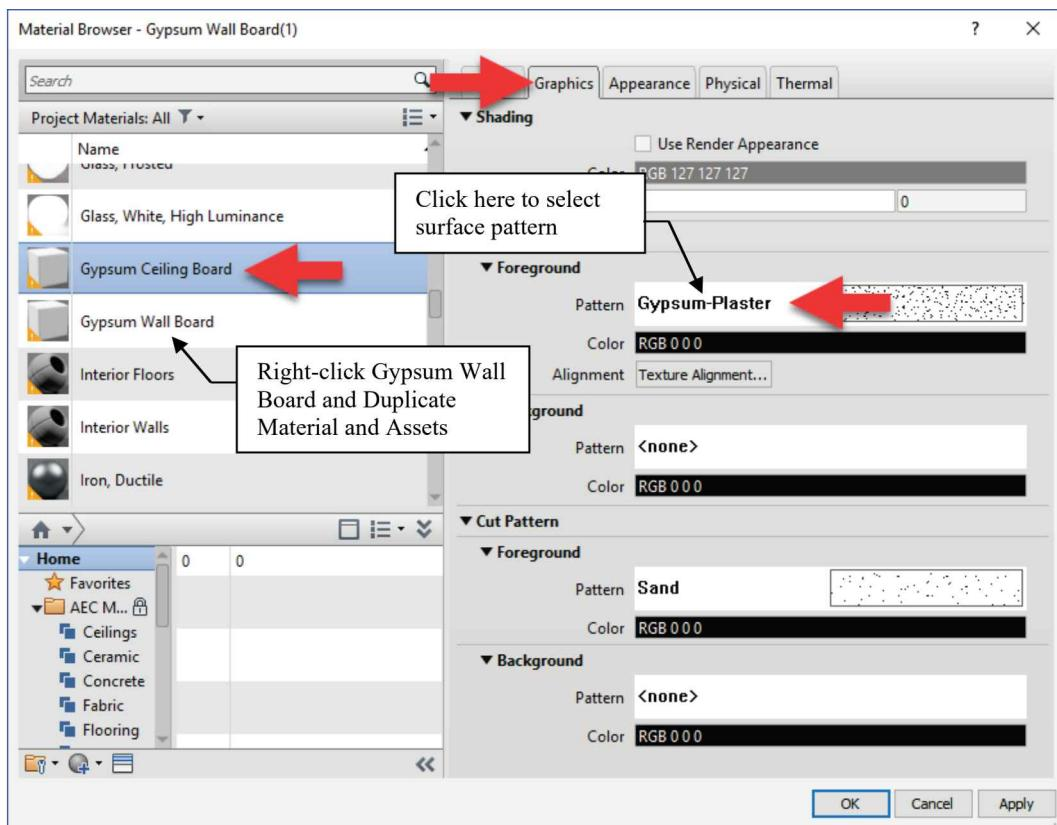

FIGURE 9-2.9 Materials dialog
22. In the *Foreground Surface Pattern* area, pick the preview and select **Gypsum-Plaster** from the list, and then click **OK** twice (Figure 9-2.9).